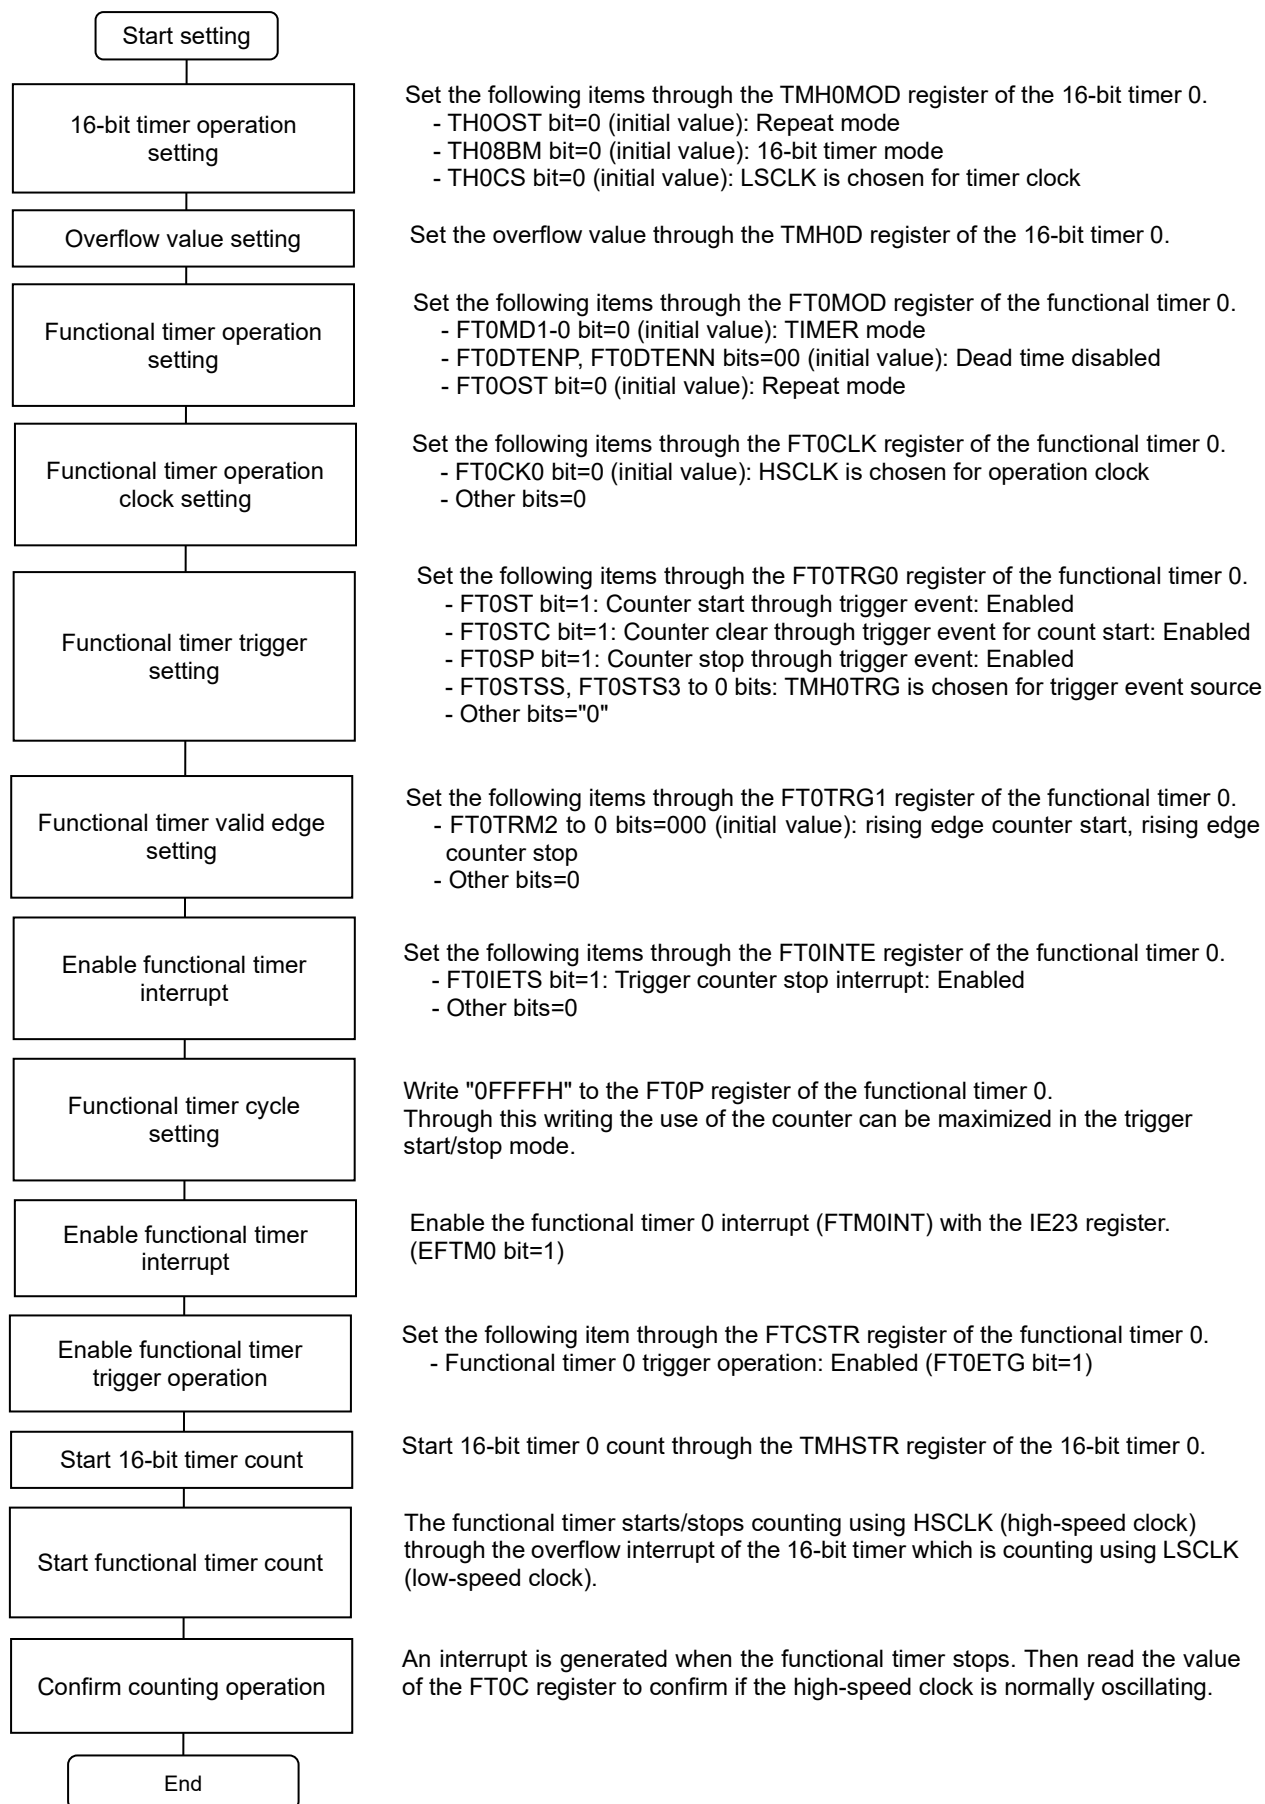

Figure 29-5 Setting of High-Speed Clock (PLL Oscillation Circuit) Oscillation Monitoring Example
Figure 29-5 describes the setting for the monitoring example shown in Figure 29-4.
- For "Overflow value setting" in Figure 29-5, set the value so that the overflow period of the 16-bit timer n is to be shorter than that of the functional timer n.